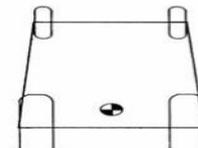

Figure 1: Stability baseline
Centre of gravity (CG). Centre of gravity is the point where all parts of a physical object balance one another. From figure1 shows that the CG is inside a tractor's stability base line. Drawing a line to connect all the wheels of the tractor as the wheels set on level ground forms a tractor stability base line. There are two very important points about tractor CG and stability base line: